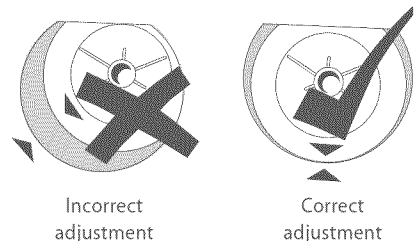

Fig.9 To check leveling look down on the wash basket
- 5 Open the lid and check the washer basket to see that it sits slightly forward of centre (Fig.9).